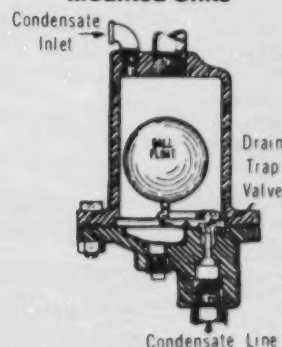

Figure 32-7. Automatic Condensate Drain Valve
10. Some receiver units are provided with an automatic condensate drain valve, or trap as it is sometimes called. The function of the drain valve is to expel the condensate moisture from the receiver and the aftercooler. (See Section 15 in this part of the manual.) As the receiver pressure rises, condensate in the bottom of the receiver is forced into the drain valve. The drain valve is of the ball-float type; therefore, as the water level in the trap rises the ball also rises and, through a linkage, opens the valve, expelling the water until the water level and the ball drop to a point of re-seating the valve. (See Figure 32-7.)